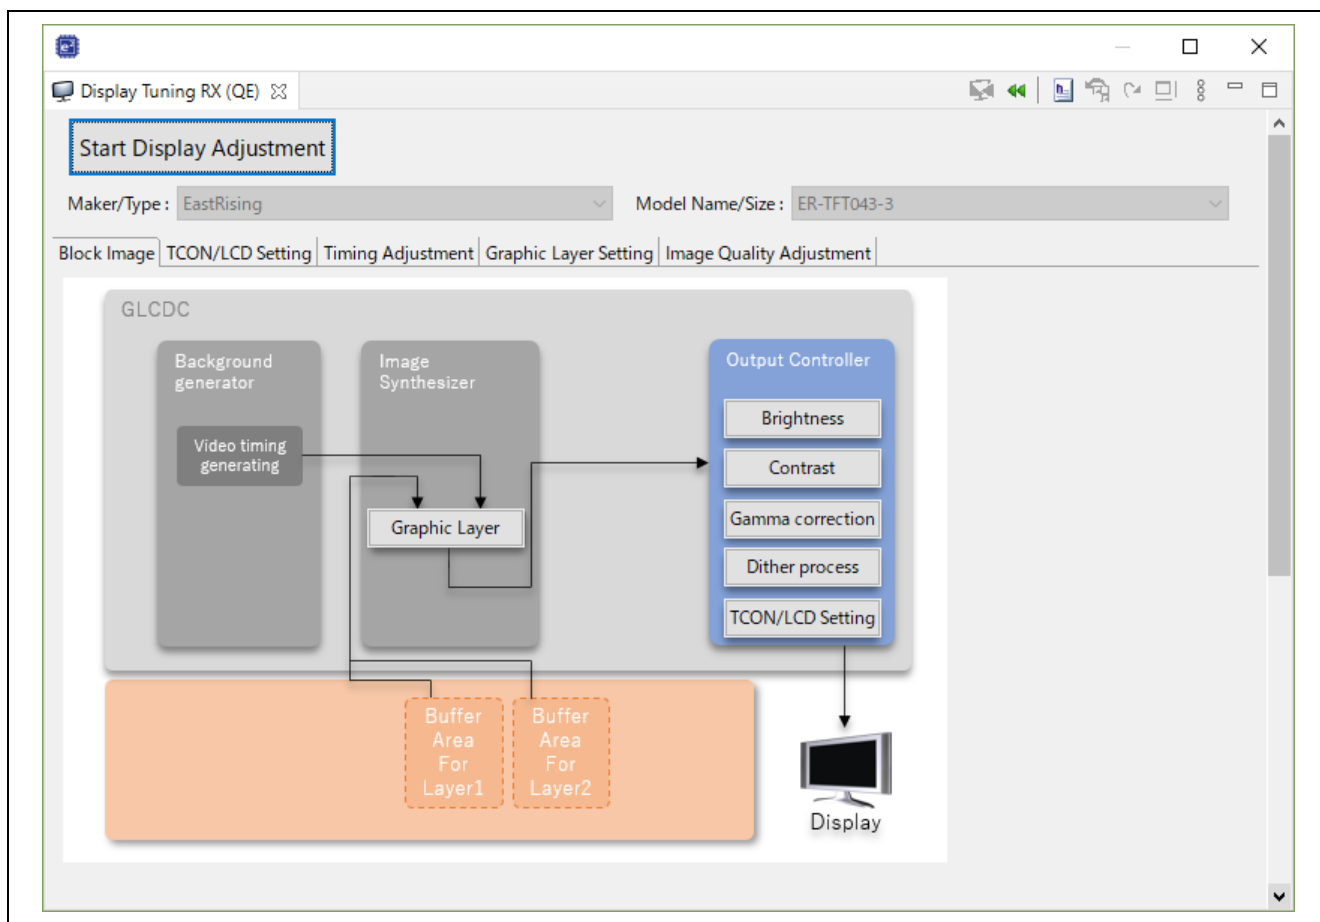

Figure6-2 “Display Tuning RX (QE)” View
After a project has been selected in “1. Selecting a project” in the workflow diagram of QE for Display [RX], selecting “Renesas Views” -> “Renesas QE” -> “Display Tuning RX (QE)” from the menu of the e² studio opens the “Display Tuning RX (QE)” view of QE for Display [RX] (Figure6-2).
Figure6-2 is the display of a block diagram of the hardware of the GLCDC, showing the path for the output of image data and the relationships between the positions where images are to be corrected. Clicking on “Brightness” or “Contrast” for the adjustment of image quality produces the “Image Quality Adjustment” tabbed page, which allows various adjustments.